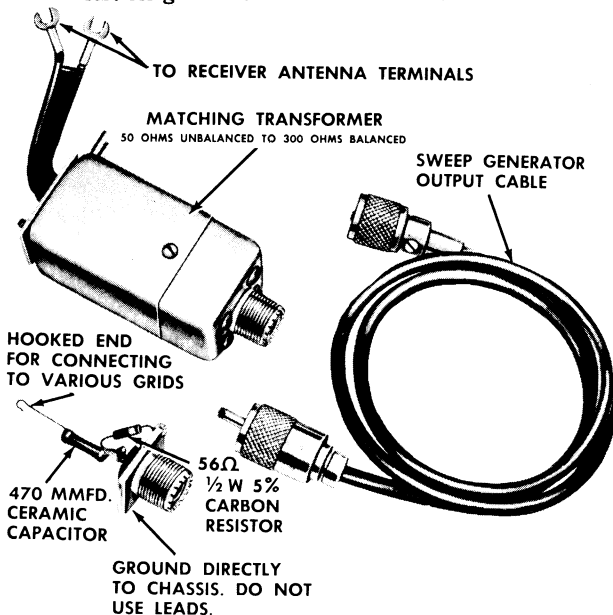
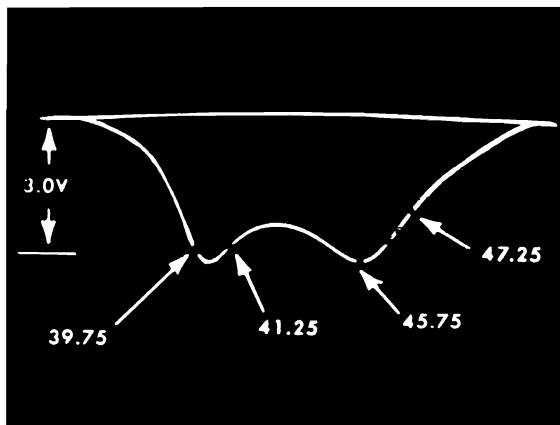
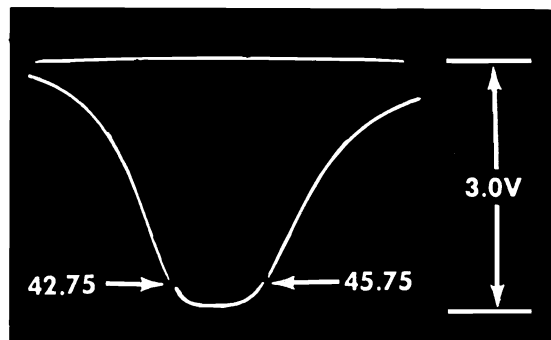

Fig. 4 IF-RF Alignment Fixtures
Fig. 5 4th IF Response
Fig. 10 4th IF Response
3. Feed the sweep generator through a special terminating network as shown in Fig. 4 to Point "G" (Grid of the 3rd IF). Adjust generator to obtain a response similar to Fig. 5 with a detector output of 3 volts peak to peak. Do not exceed this level during any of the adjustments.
4. Set the marker generator to 45.75 Mc and alternately adjust the top and bottom cores of the 4th IF for maximum gain and symmetry with the 45.75 Mc marker positioned as shown in Fig. 5. The two peaks must be equal in height and the high frequency
3. Feed the sweep generator through a special terminating network as shown in Fig. 4 to Point "G" (Pin 1 of the 3rd IF). Adjust generator to obtain a response similar to Fig. 10. Do not exceed the 3 volt peak to peak detector output during any of the following adjustments.
Fig. 10. If the correct response cannot be obtained, check the cores to see that they are not butted but are entering their respective windings from the opposite ends of the coil.